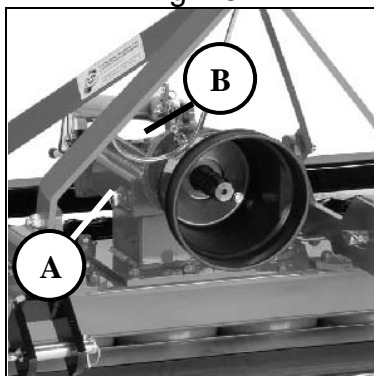

Fig. 16
1. Grease the roller supports (Fig. 16 - Ref. A).